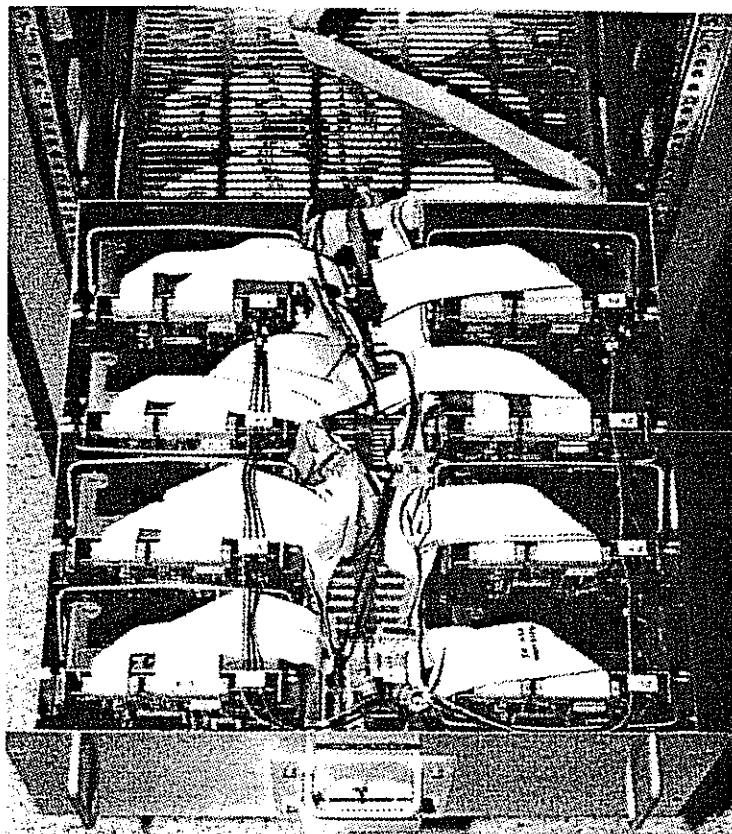

Figure 7-48. DD-3 Cables
8. Remove all of the cables from the drive to be replaced and push them to the side to allow drive removal. You may have to remove one or more power plugs from other drives in order to have sufficient space to clear the drive. Refer to Figure 7-48.